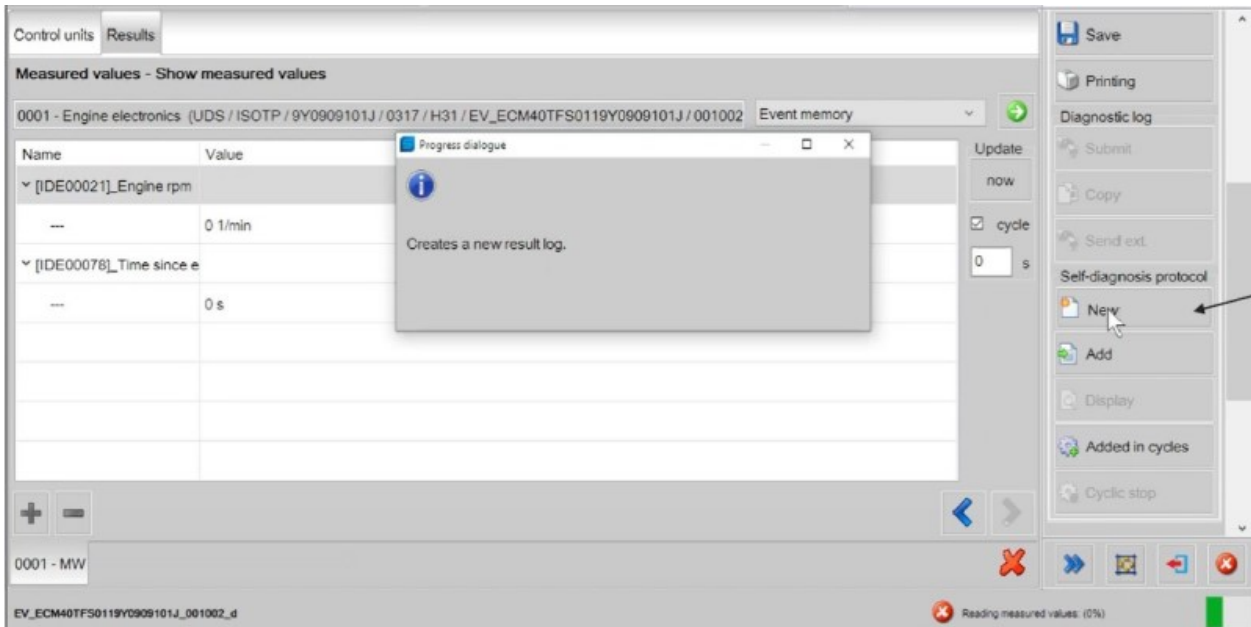

Figure 4
4) Referring to Figure 4 - From the side tool bar start a new Self-diagnosis protocol